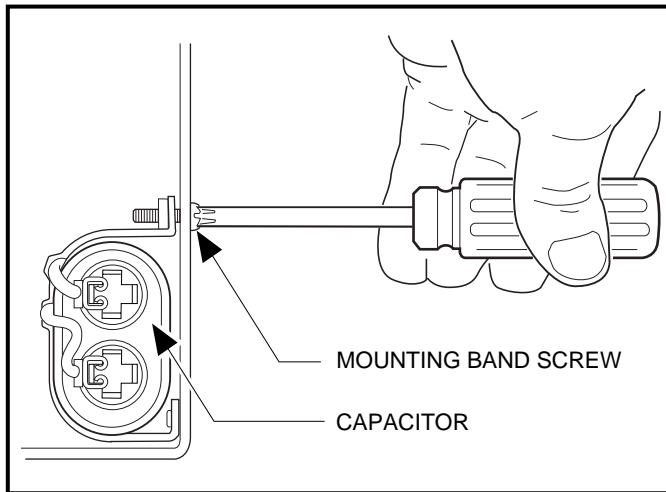

Figure 14-17 Capacitor
2. Loosen the mounting band screw (**Figure 14-17, Page 14-18**). **See CAUTION on page 14-10.**